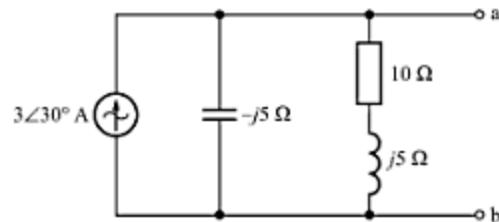

Fig. C-45
- C-42.** For the circuit shown in Fig. C-45, find (a) the open-circuit voltage  $V_{ab}$ , (b) the downward current in a short-circuit between a and b, and (c) Thevenin's equivalent impedance  $Z_{ab}$  in parallel with the current source.